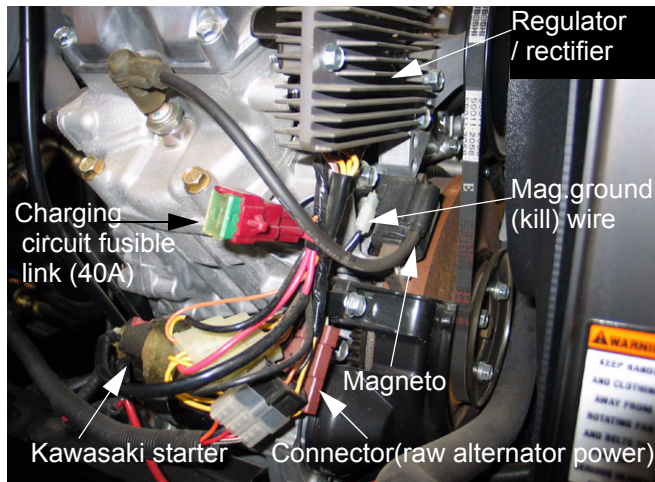

Figure 1.11
- 1.11. The gasoline engines use flywheel mounted rotors and engine mounted stators to generate A.C. current. The current is processed through regulator-rectifier modules before being passed to the main harness of the tractor. See Figure 1.11.